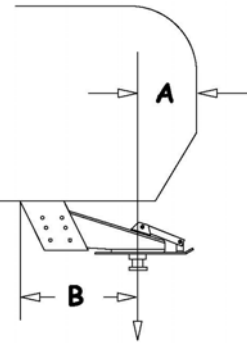

Figure 3
- 1) There is no assembly required except to attach the **Base Rails** (1) to the base feet of the hitch **Base** (F1) using the four ½" **Base Rail Pins** (G12) and four **#3 Pin Clips** (G3).
- 4) As a general rule, for the SuperGlide hitch to maintain proper clearance to the truck, the leading edge of the trailer (measured at the corner) should be even with the center of the king pin. (**Figure 3**). **Most** truck trailer combinations will allow 102" wide trailers if the king pin is located properly for each application. Narrower trailers will allow the king pin to be "tucked" under the trailer over hang to some extent. For each different vehicle make, the location of the hitch center (king pin location) relative to the center of the vehicle rear axle is different. Included with each individual installation instructions is a table showing the cab clearance of different width trailers. These tables do not take into account radiused corners (which add to clearance) or contours of the trailer that could also add to clearance. **Consult these tables prior to installation of the hitch.** Call PullRite technical support with trailer width, make and year of truck and distance the king pin is from leading edge of the trailer if you have any questions. 1-800-443-2307
- 5) Using a trailer that has a long rear slope to the King Pin Box Hangar, ("B" in Figure 3), may cause damage to the trailer or truck bed during turns. **Dimension "B" must be less than one half the width of the inside top edges of the bed.** Please call PullRite technical support, 1-800-443-2307, if more information concerning this problem is needed.